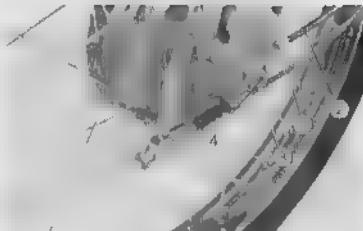

Fig. 4.57 Removing front brake cable
- (2) By removing the adjusting nut at the front wheel, the front brake cable ① can be removed from the front brake arm joint (Fig. 4.57)
- (3) Front brake panel
Remove the front brake cable ② and the speedometer cable ③ from the front brake panel. Remove the axle nut ④ and pull out the axle ⑤, then the front brake panel can be removed together with the front wheel. (Fig. 4.57)